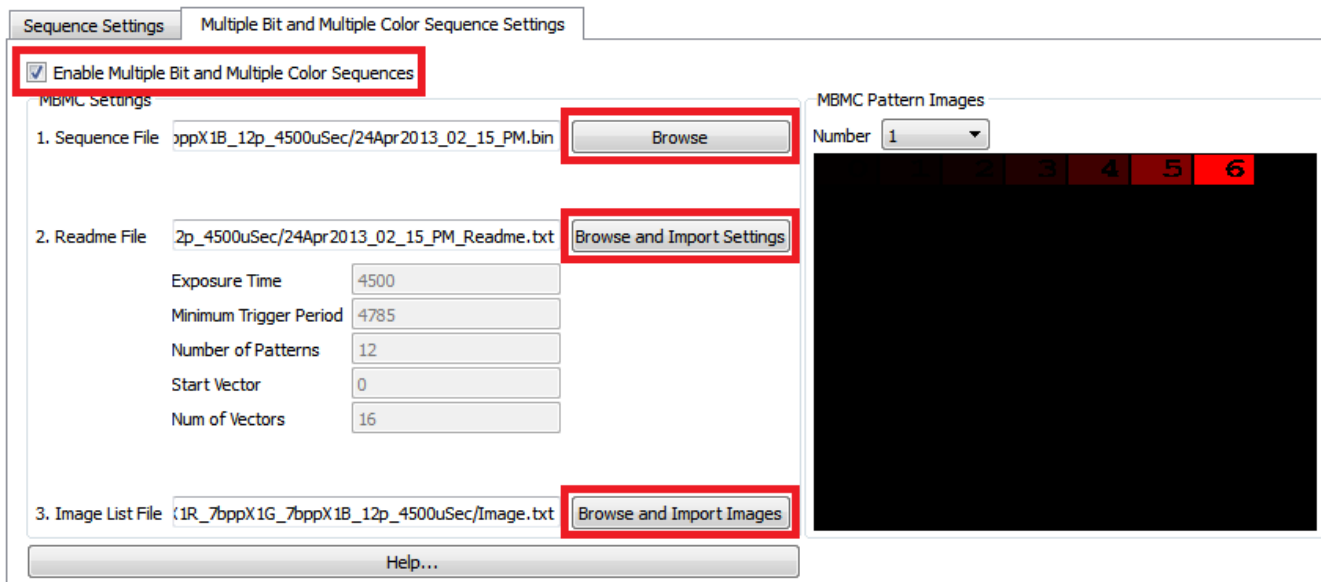

Figure 2-46. DLP LightCrafter GUI Multiple Bit and Multiple Color Sequence Settings Tab in Stored Pattern Sequence Tab
5. Check the "Enable Multiple Bit and Multiple Color Sequences" checkbox. See Figure 2-46.